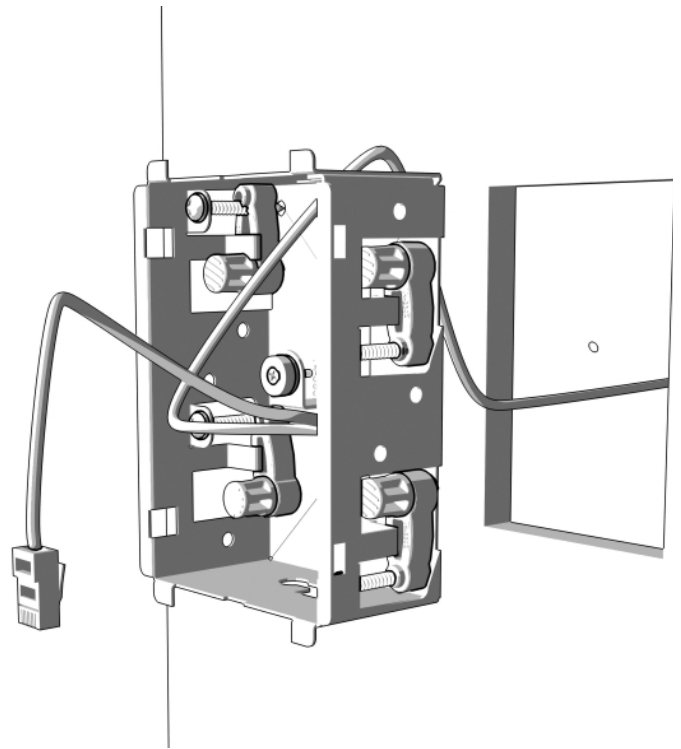

Figure 4: Mounting Cradle Installation
6. Prior to placing the mounting cradle into the wall, pull a sufficient length of the Cat5 cable and its attached RJ-45 connector through the opening in the top of the mounting cradle, as shown in figure 4.